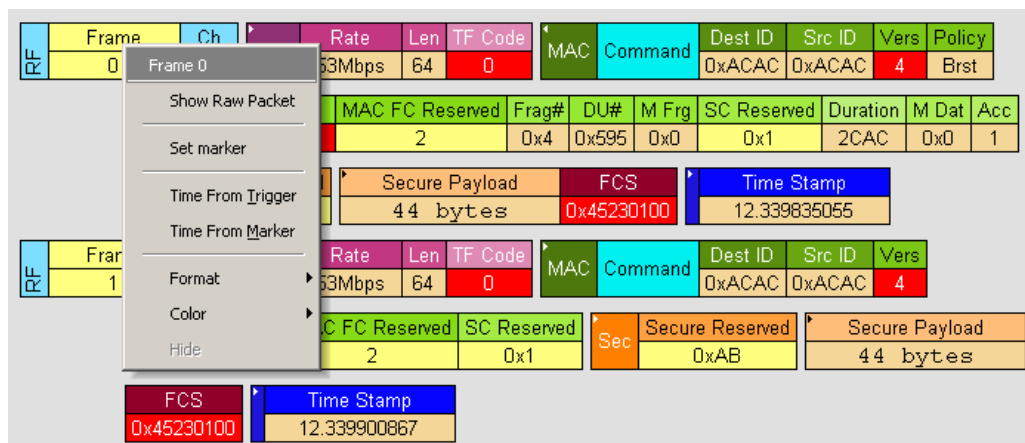

Figure 3.19 Setting a Frame Marker
Step 2 From the pop-up menu that appears, Select **Set Marker** (Figure 3.19).